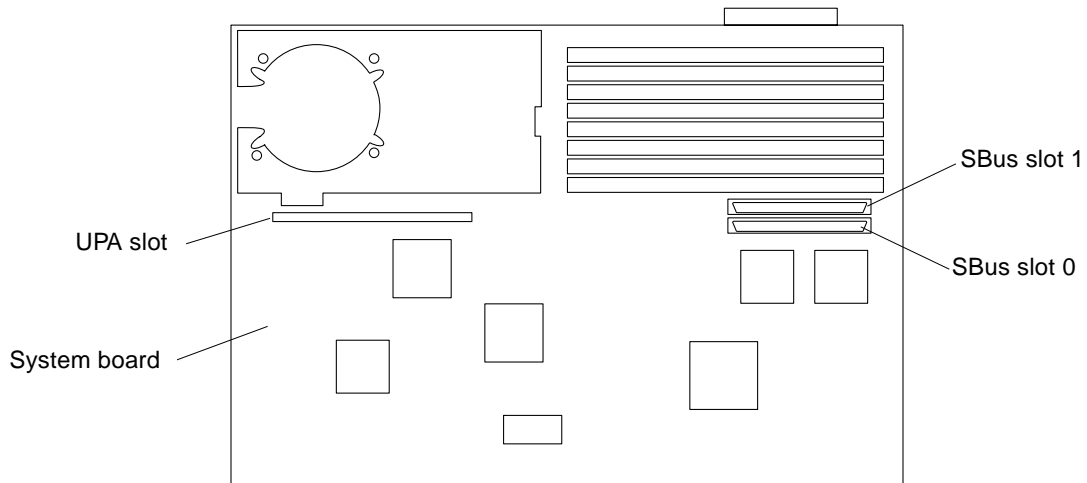

Figure 2-7 Sun Ultra 1 Model 200E Series SBus Slot Locations
**Note** – Identify the location of the SBus card(s). Ultra 1 Creator Series systems contain two SBus slots (Figure 2-7).